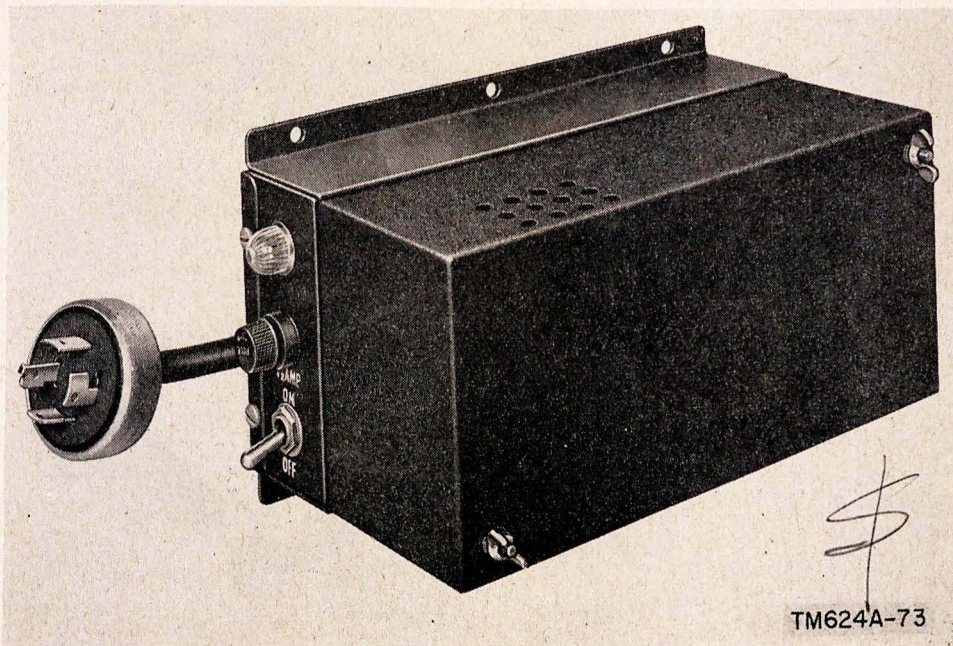

Figure 9. Power Supply PP-886/G.
*m. Power Supply PP-886/G* (fig. 9). Power Supply PP-886/G is supplied only with Radio Set AN/MRC-2D. It is secured directly to the rear shelter wall. An ON-OFF switch, a fuse receptacle, and a power indicating lamp are mounted on the side of the chassis. The chassis is inclosed in a sheet-steel cover. The rectifier unit is an auxiliary power supply to the 12-volt battery source available from Power Unit PE-95-(\* for operation of the disabling relay in Radio Receiver R-388/URR and a keying relay in Junction Box JB-70-B.